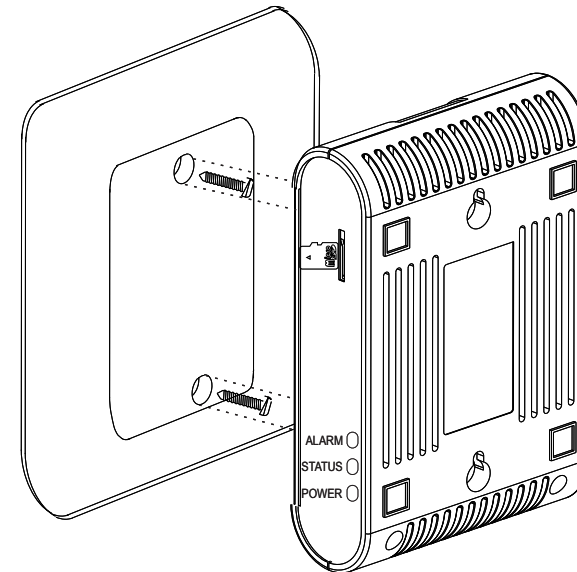

Figure 2
- Drive the screws into the wall. Leave the screw heads protruding slightly (2 to 4 mm gap from the wall), enough for the keyhole slot of the PANEL to engage. Refer Figure 2.